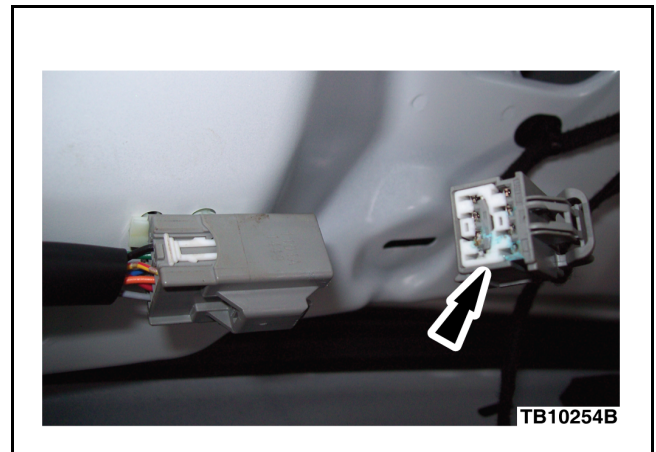

Figure 2 - Article 12-10-7
7. Inspect each connector for evidence of water intrusion and/or corrosion. Is evidence of water or corrosion present? (Figure 2)